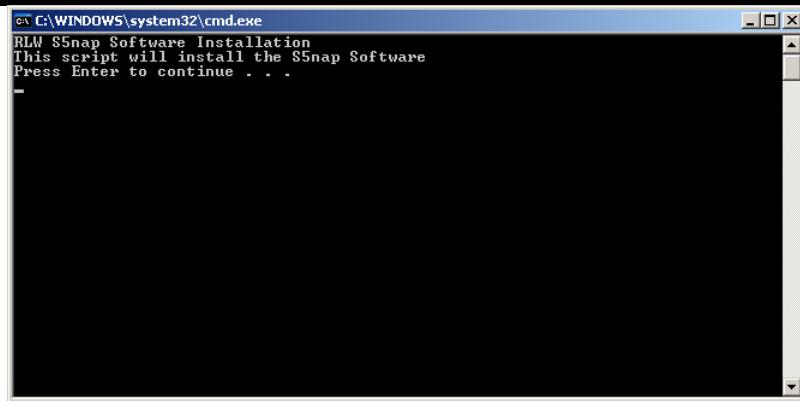

Figure 2-2: RLW S5NAP Software Installation Console Window
3. When the S5NAP Software Installation window appears, press <Enter> to begin installation, see Figure 2-2.